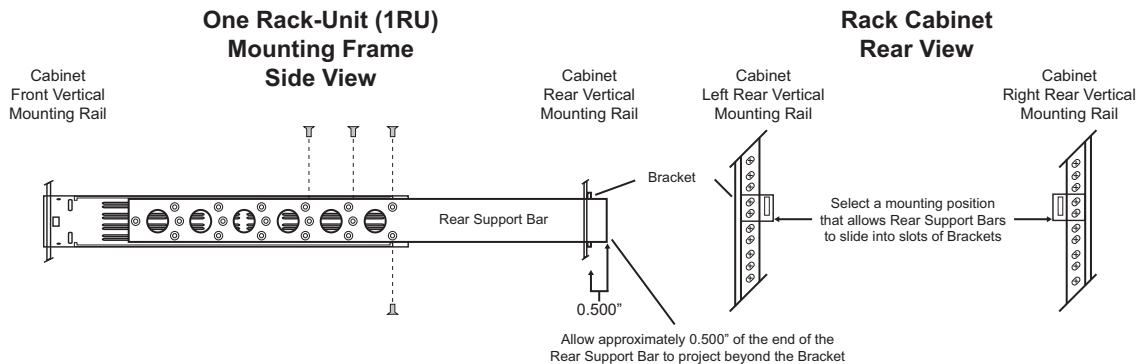

Figure 4.1 Installing the Support Brackets
In some cases, (mobile trucks, etc.) it may be desirable to also support the rear of the SRG-2200. The rear support bars can be attached to the SRG-2200 in six possible positions. (**Figure 4.1**)
2. Using four screws per bracket, as shown in **Figure 4.1**, attach both bars.